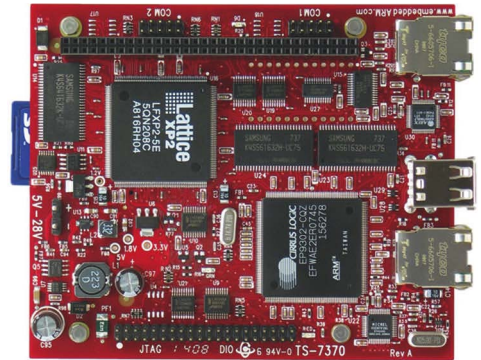

Figure 5 TS-7370 from Technologic Systems includes a user-programmable FPGA allowing you to create a custom interface to most color TFT-LCD panels.
Low-cost, commercial-off-the-shelf embedded modules are also adopting FPGA technology to give designers flexibility in custom applications. For example, the TS-7370 from Technologic Systems is a PC/104-form-factor, LCD-ready single-board computer that the company based on the Cirrus EP9302 200-MHz ARM9 CPU and a user-programmable Lattice XP2 FPGA (Figure 5). The company designated the product LCD-ready because the FPGA connects to a dedicated RAM frame buffer, allowing users to create a custom video core on the FPGA to provide an interface to most color TFT (thin-film-transistor)-LCD panels. Supporting multiple embedded-system applications, the TS-7370 peripheral interfaces include onboard RAM, 10/100-Mbps Ethernet, USB 2.0 host, serial ports, an SD (secure-digital)-card socket, ADC channels, digital-I/O lines, a temperature sensor, and a real-time clock. The TS-7370 runs Linux 2.6 out of the box and costs \$149 (100).